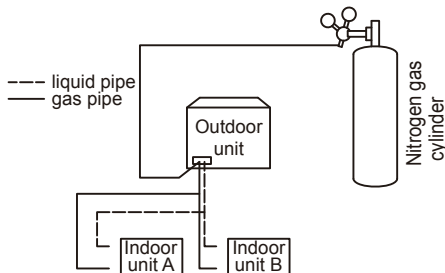

Figure 5.15
- Use blind plugs to block all liquid (gas) side openings, except for the opening at the indoor unit which is furthest from the outdoor units ("Indoor unit A" in Figure 5.15).